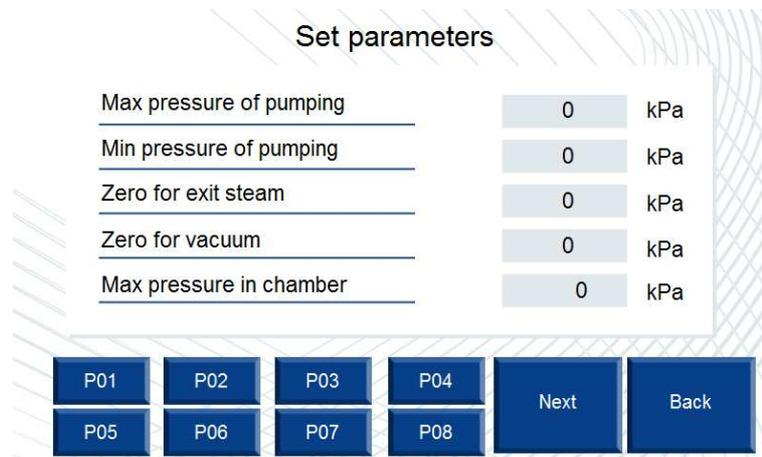

Fig. 18
**Parameters setting** – pressing this button moves to the parameter settings screen (Fig. 18).
**Maximum pressure of pumping, Minimum pressure of pumping, Zero for exit steam, Zero for vacuum, Maximum pressure in the chamber** – the same parameters as in the screen Fig. 18.
**Back** – pressing this button returns to the previous screen (Fig. 18).